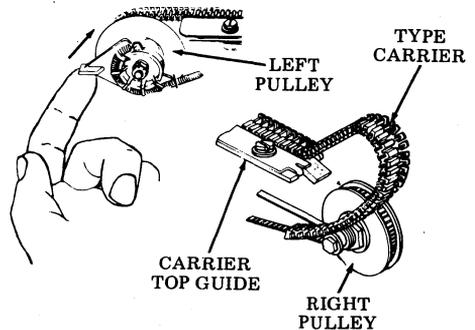

Fig. 15
- (c) Lift finger lever on left pulley and hold. Remove type carrier starting at right pulley as shown (Fig. 15). Release finger lever.